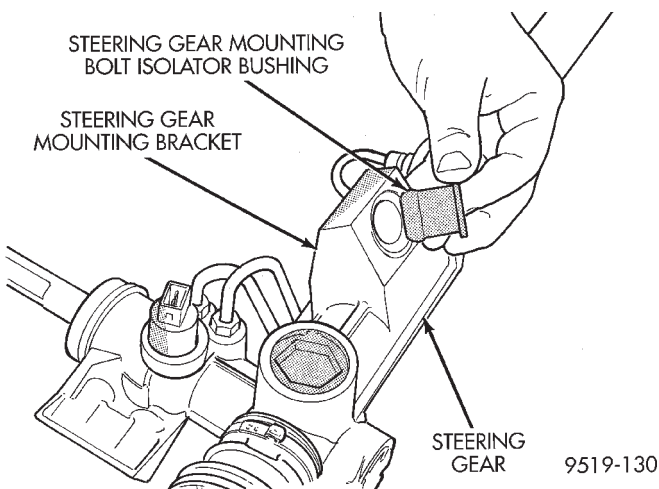

Fig. 23 Installing Mounting Bolt Isolator Bushing
(1) Lubricate replacement mounting bolt isolator bushing using Mopar, Silicone Spray Lube or an equivalent.
(2) Install the mounting bolt isolator bushing into the steering gear mounting bracket from the bottom side of the bracket (Fig. 23).